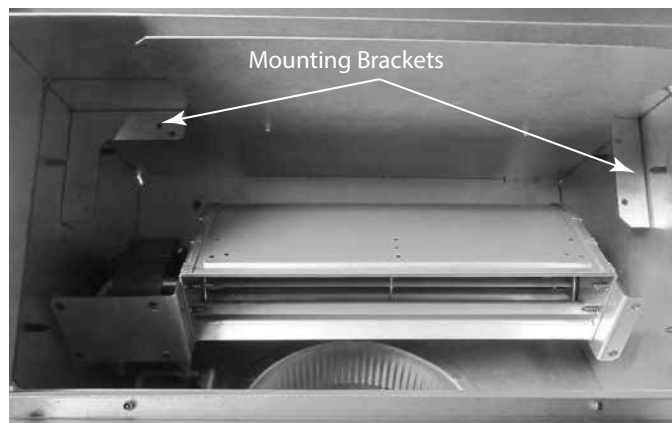

Figure 3.30
- Tilt the fan forward to clear the mounting brackets then lift the fan onto the brackets. See Figure 3.30.